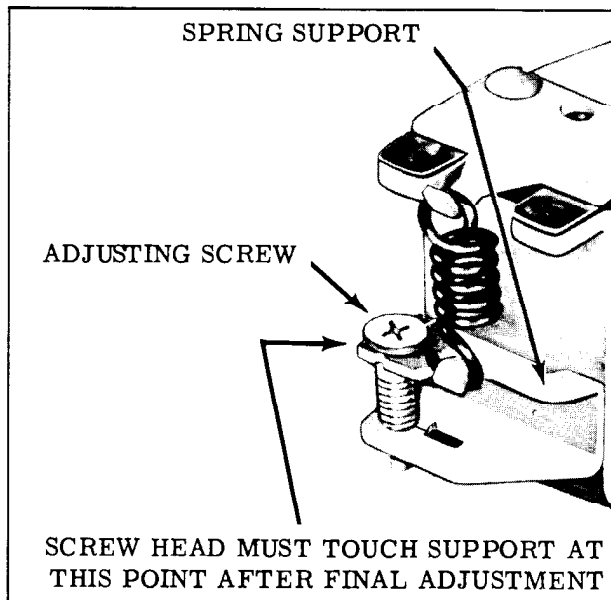

Fig. 13-13 Adjusting Voltage Setting
8. To adjust the voltage setting, remove the thermometer and regulator cover and turn the adjusting screw. (Fig. 13-13) Increase spring tension to raise the setting; decrease